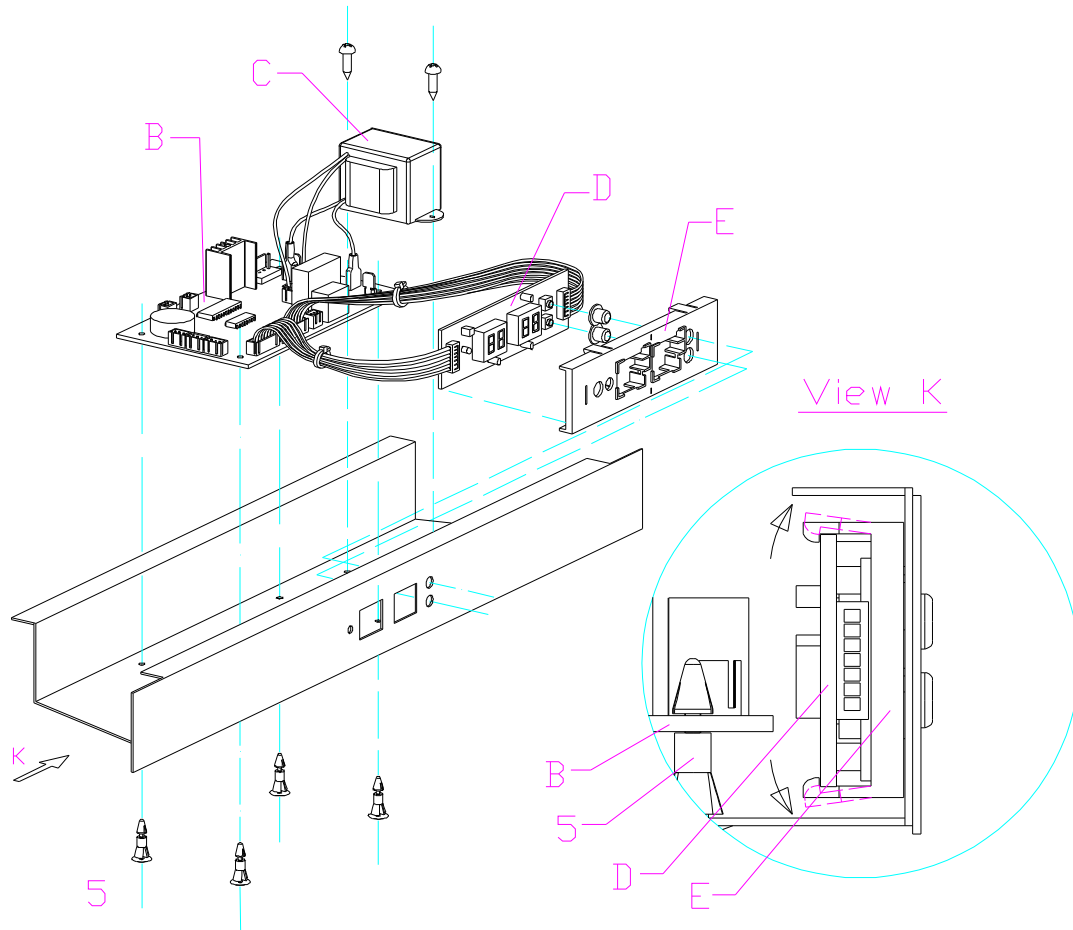
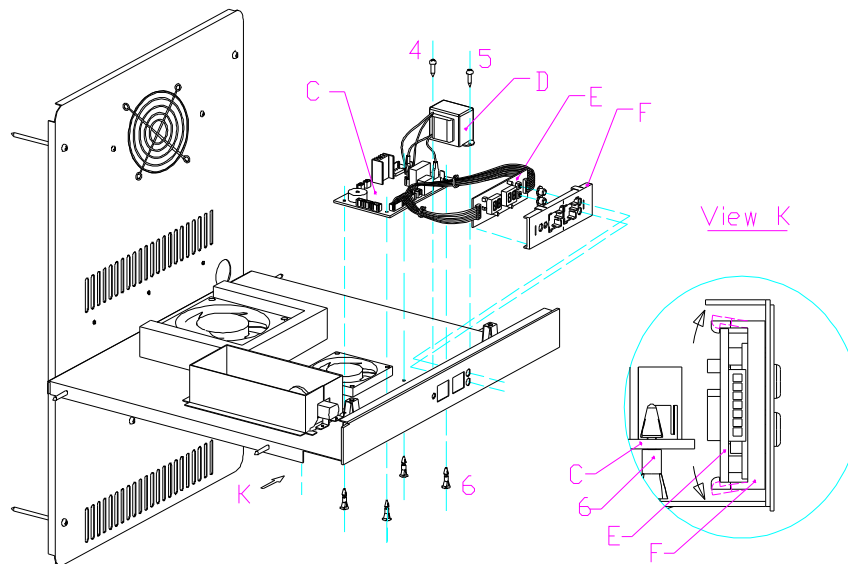

Fig.32
Fig.33
This malfunction is caused by the display panel's default, replace with the same model's display panel. (Fig.32 & Fig.33)
- b. Unplug all the connectors from the control panel, and press the 4 studs (5) one by one, and up draw the control panel, and take off the PCB board (B) . Replace it with the same model's PCB board; (Fig.32)
- c. Remove the the screw of the two transformer and take off the transformer (C) for replacement(Fig.32 ).
Pull the four 4 display cover fasteners on display board cover (E) as per arrowhead direction, and then remove the display board (D) and its two connectors from both sides. Replace the display board. See (Fig.32)
- b. Unplug all the connector, press the 4 studs ( 6 ) one by one. Updraw the PCB board, and draw off the PCB board(C), , replace it with the same model's PCB board. ( Fig.33 )
- c. Remove two fixing screw of the transformer, take off the tranformer ( D ) for replacement. ( Fig.33 )
Pull the four 4 fasteners of display board cover (F) as per arrowhead direction, and then remove the display board (E) and its two connectors from both sides. Replace the display board. See (Fig.33)